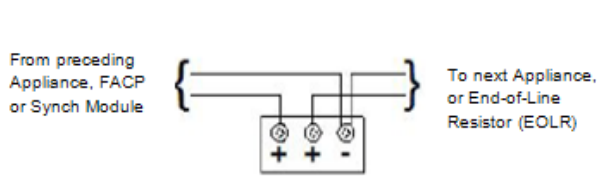
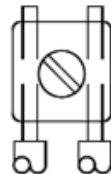

Figure 2: LED Strobe Wiring
Figure 3: Wire Connection
- Break all in-out wire runs on supervised circuits to ensure integrity of circuit supervision as shown in Figure 3. The polarity shown in Figure 2, the wiring diagram, is for the operation of the appliances. The polarity is reversed by the FACP during supervision.